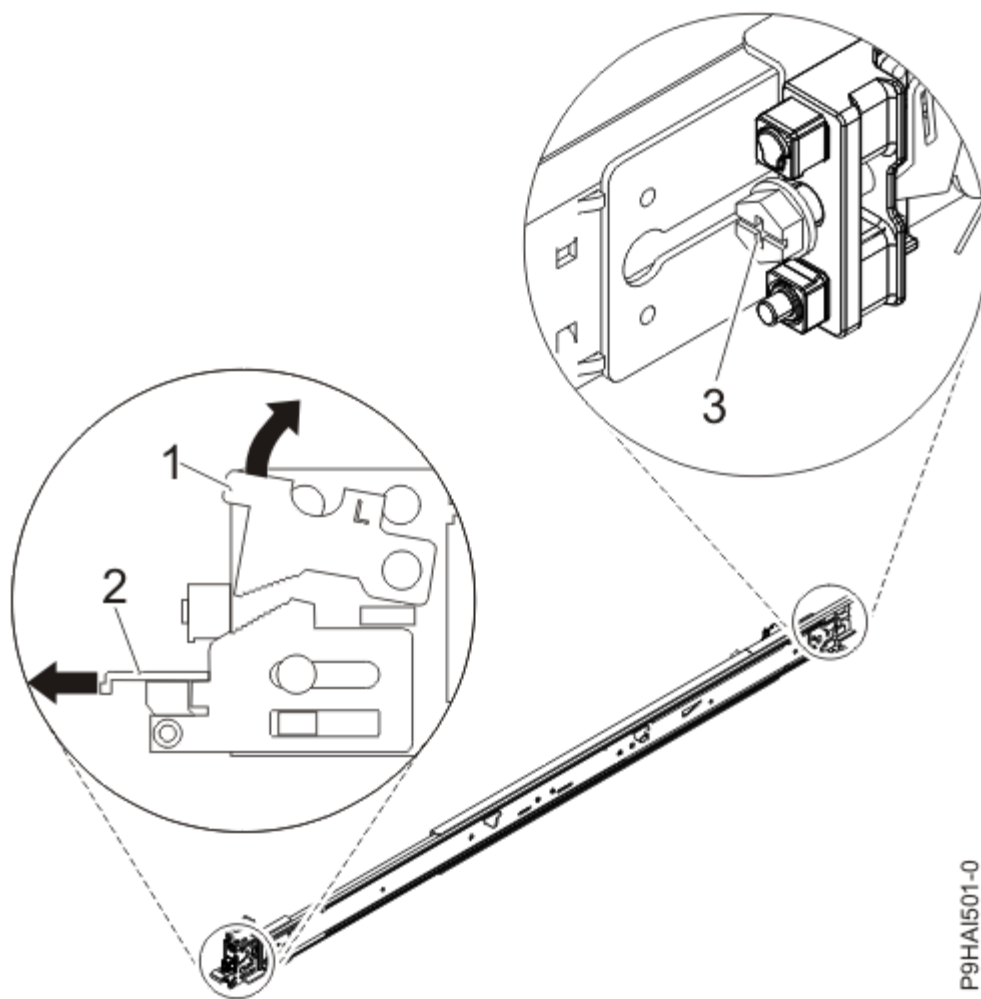

Figure 2. Opening the front latch and removing the rear screw
2. Move to the front of the rack. Push up on the locking tab (**1**) on the front of the rail, and pull out the front latch (**2**) at the front of the rail. See Figure 2 on page 4.